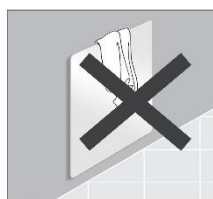

Fig 6
- It is important not to cover the appliance at any time in order to avoid dangerous overheating. (Fig. 6)